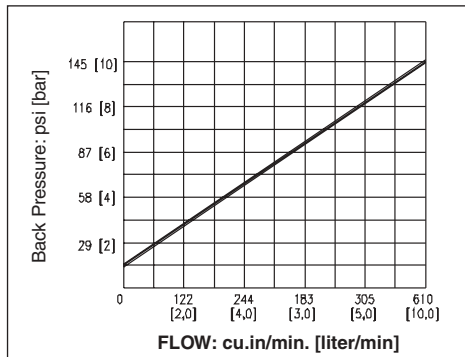

Figure 4, Back Pressure vs Flow Return: F - G (See Figure 1)
**NOTE:** When using Flow Control in single acting circuits, be sure to note back-pressure due to return flow. (See Figure 4.) This can cause slow return of single acting components.